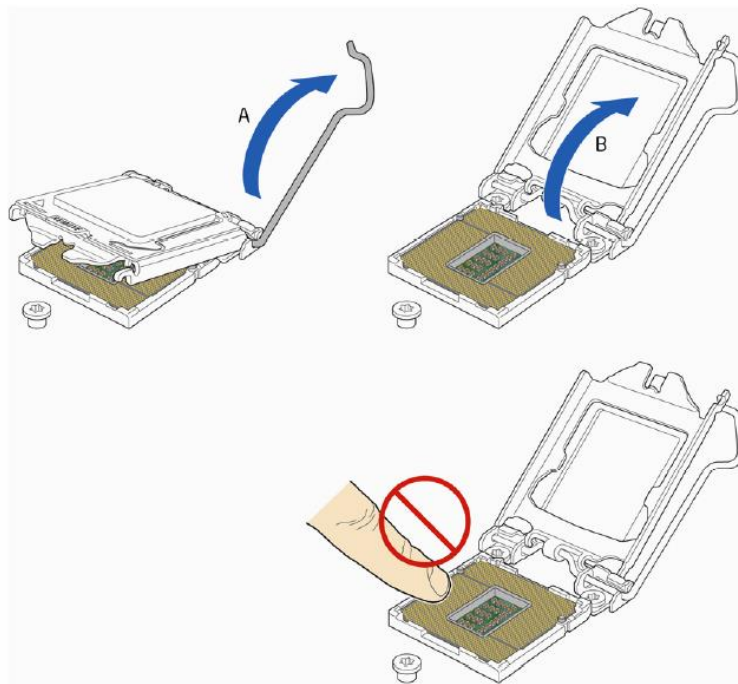

Figure 5: Lift the load plate
2. Rotate the socket lever to lift the load plate away from the socket (Figure 5, A). Make sure that the load plate is in the fully open position (Figure 5, B) while being careful not to damage adjacent components. Do not touch the socket contacts.